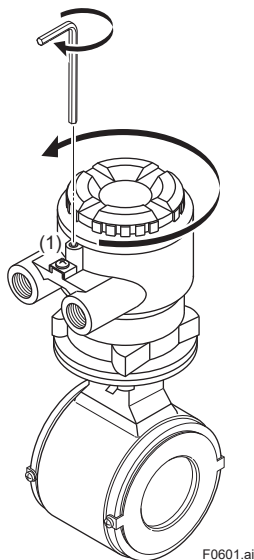

Figure 6.1 Removing the Cover (Remote Sensor)
Loosen the cover locking screw (1) (See Figure 6.1) clockwise using a hexagonal wrench (nominal size 3) to unlock the cover. Upon shipment from the manufacturing plant, the cover is unlocked. Support the main unit and turn the cover to the left (counterclockwise) to remove it.
Install the cover to the terminal box by turning it clockwise. Tighten the cover locking screw (1) (See Figure 6.1) counterclockwise using a hexagonal wrench (nominal size 3) to lock the cover.